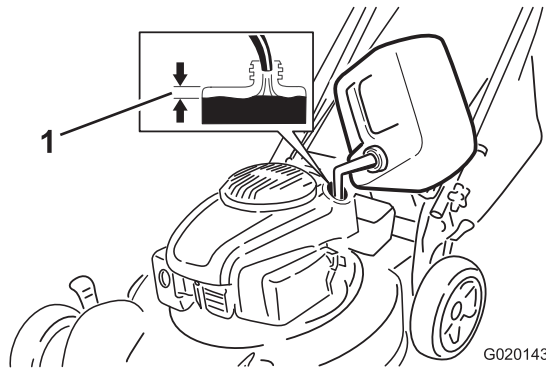

Figure 7
1. Clean around the fuel-tank cap, and remove the cap from the tank (Figure 7).